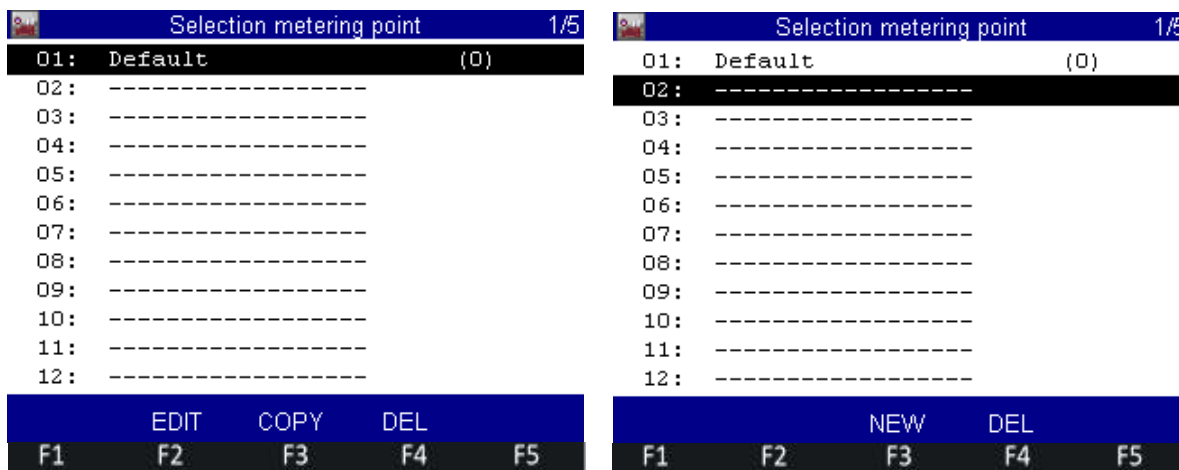

Figure 11: Takeover of the parameters of an existing metering point; right: Creation of a new metering point.
1. You can select an existing metering point with the cursor and select F3: COPY. Here, all of the settings are taken over from the selected metering point and a new metering point is created in the next free space (Figure 11 left). With F2: EDIT, you can change the parameters of a metering point.
2. An empty entry is selected. Here, you will see the following on the F3 key: NEW. You can create a new metering point here. The start values are the default values (Figure 11 right).